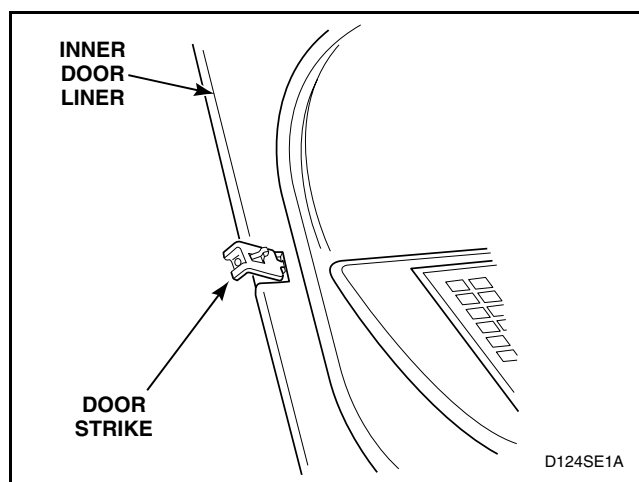

Figure 24
- Remove door strike from door liner and reinstall strike on opposite side. Refer to *Figure 24*.